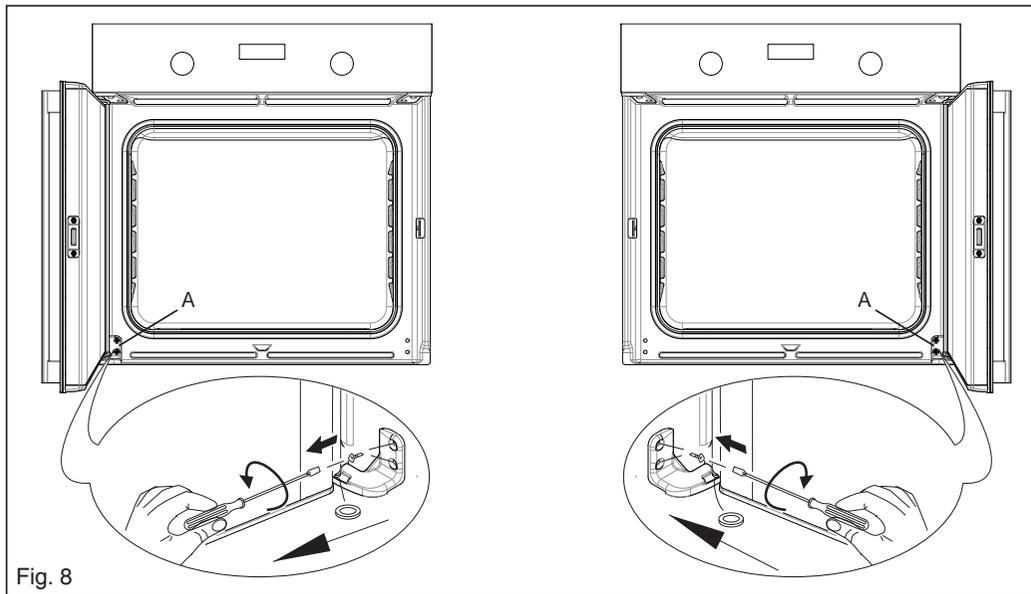

Fig. 8
- 1) Open the oven door and undo the two screws in the block **A** (see figure 8). (N.B.: when block **A** is unscrewed, the bottom of the door is left completely free. Two people are therefore needed for this operation, one to hold the door firmly while the screws are undone).